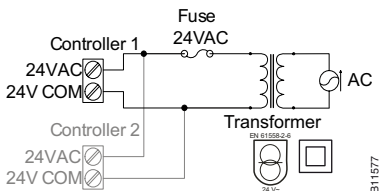
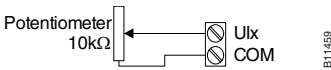

Fig. 6 Power wiring
Fig. 8 10-kΩ-Potentiometer input
5. To connect the high and low pressure sensors (Figure 6 and Figure 8), use flexible tubes with 6.4mm outside diameter and 4mm inside diameter.
Use an external fuse on the 24VAC side (secondary side) of the transformer, as shown in Figure 6, to protect all controllers against power line spikes.